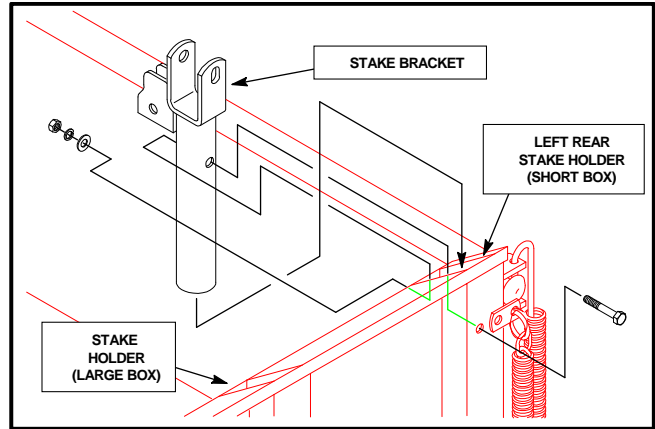
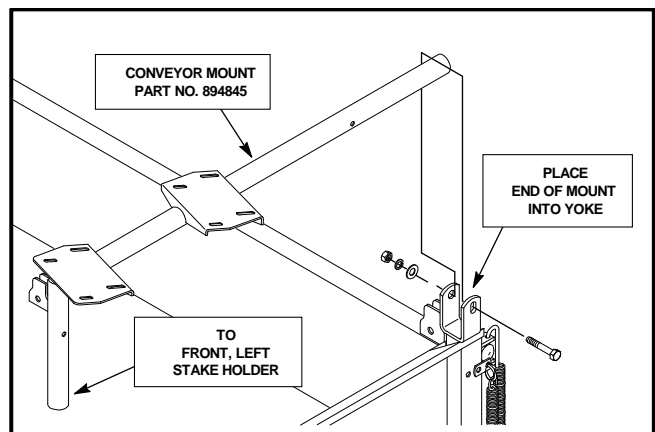

Figure 29
Figure 30
2. Place the stake bracket into the stake holder at the rear of the left box-side (See Fig. 29). **If your vehicle is equipped with a box other than the short box, the stake bracket will be installed into the middle stake holder** (the stake holder will actually be closer to the rear than to the center of the box).
3. Secure the stake bracket to the side-box using one (1) 3/8-16 x 2 1/2" screw (Part No. 301431), one (1) 3/8 flat washer (Part No. 306981), one (1) 3/8 lockwasher (Part No. 120177) and one (1) 3/8-16 nut (Part No. 306562).
4. Install the conveyor mount (Part No. 894845), by placing the short 90° end-tube into the **front** stake holder on the left side-box and positioning the horizontal tube in the yoke on the stake bracket as shown in Figure 30.
5. Secure the front side of the conveyor mount to the side-box using one (1) 3/8-16 x 2 1/2" screw (Part No. 301431), one (1) 3/8 flat washer (Part No. 306981), one (1) 3/8 lockwasher (Part No. 120177) and one (1) 3/8-16 nut (Part No. 306562).